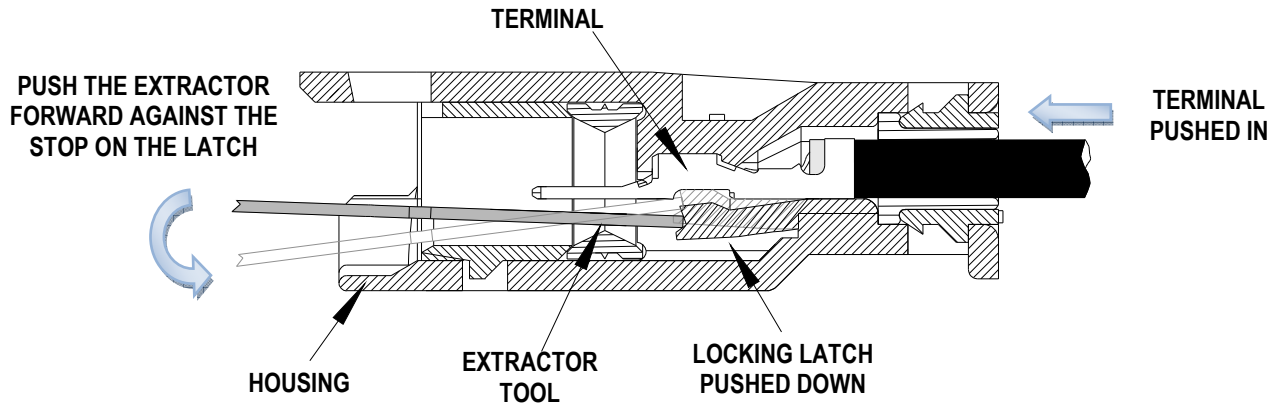

Figure 3
4. Depress the locking latch and pull the wire and terminal back through the connector slot. See Figure 3.
NOTE: Figure 3 does not show an exact representation of the 51198 housing.